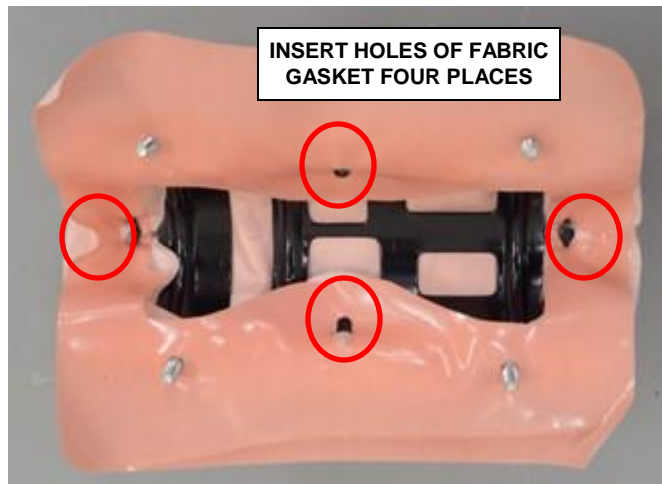

Figure 54 – Fabric Gasket
- g. With the help of a trim tool insert the holes of fabric gasket, four places (Figure 54).